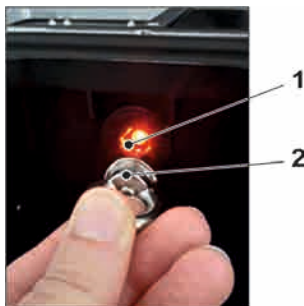

Fig. 31-1 Waking up the NivuFlow Mobile
2. “Waking up” NivuFlow Mobile: hold the accompanying magnet (solenoid, Fig. 31-1 no. 2) to the reed contact (Fig. 31-1 no. 1; on front side of NFM) until the LED is lit.